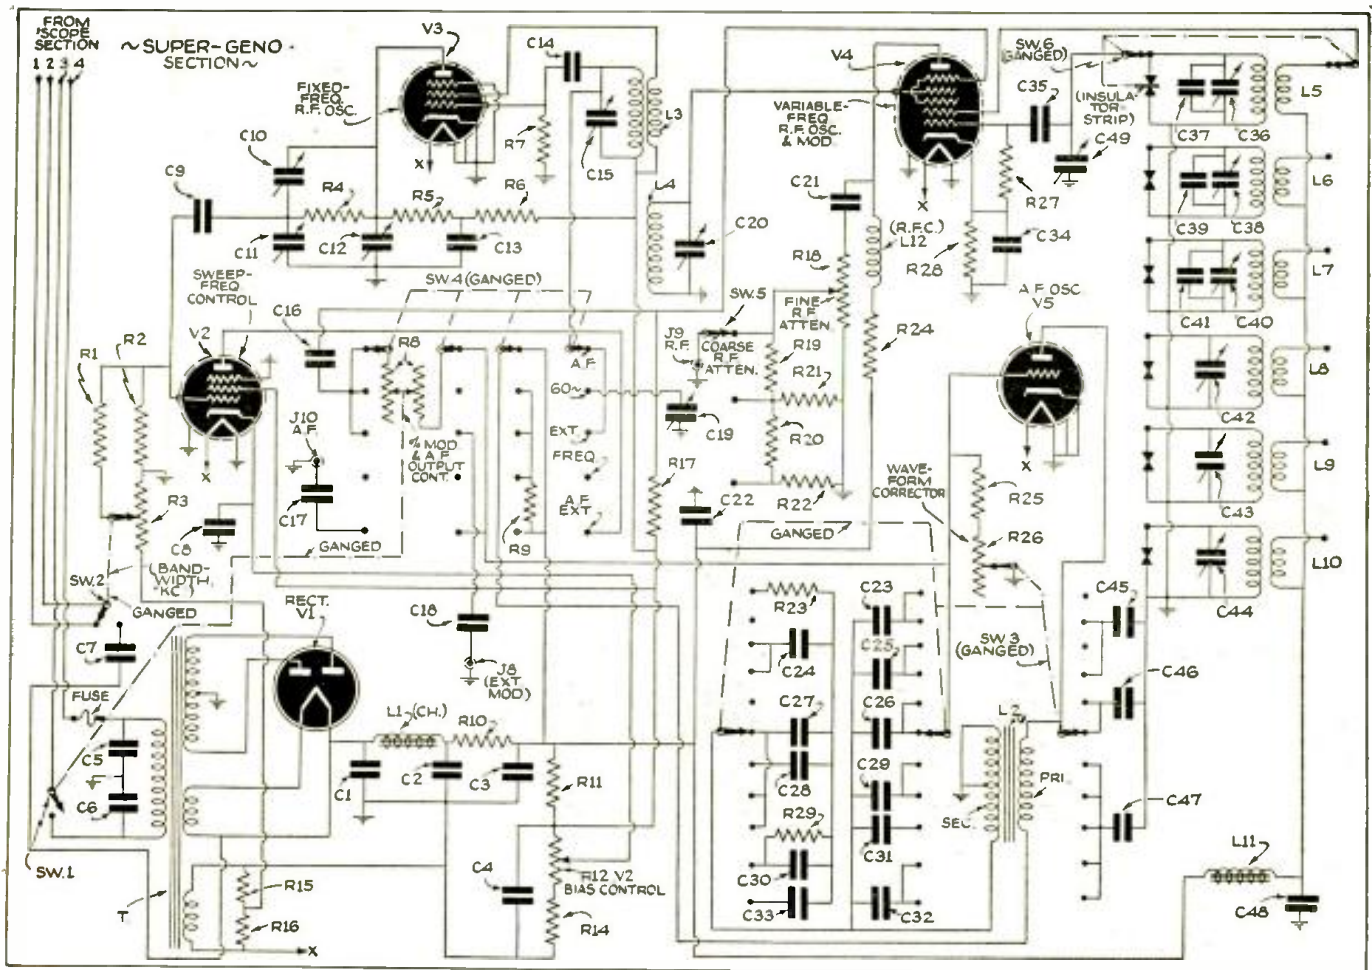

Fig. 2. Schematic diagram of the Super-Geno section of this Serviceman's test unit. Tubes: V1, 80; V2, V3, 6J7; V4, 6K8, V5, 6C5.
**T**HE SUPER-GENO section of this compact, convenient service instrument—Part I of which described, last month, the Scope (oscilloscope) section—is a multiple signal generator comprising a radio-frequency oscillator, a fixed-frequency oscillator, a variable audio-frequency oscillator and a frequency modulator. More detailed specifications follow. (See Fig. 2.)
- (1) The variable R.F. oscillator when heterodyned with the fixed R.F. oscillator has an output frequency from 85 to 32,000 kc., covered in 6 bands.
- (2) The fixed R.F. oscillator has a tuned frequency of 900 kc.
- (3) The A.F. oscillator has a frequency range from 50-7,000 cycles, covered in 11 steps.
- (4) The frequency modulator has a variable channel width from 0 to 30 kc., or 15 kc. at either side of the mean frequency.
The fixed R.F. oscillator consists of the 6J7 oscillator tube and its associated inductances L3-L4, condensers C15-C20-C14, and resistor R7. (See schematic diagram, Fig. 2.)